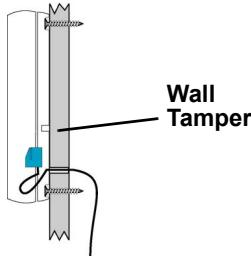

Figure 4 Mount the Transmitter to the Wall
2. Route the external wiring through the wall, as shown in Figure 4.